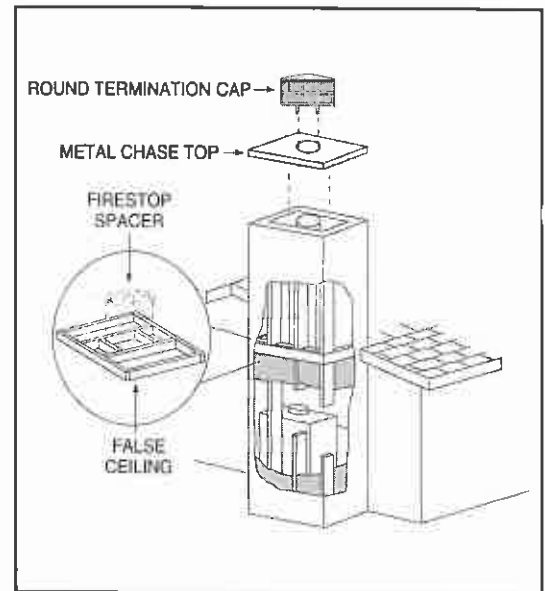

Figure 22 - Chase Assembly
- 4) In cold climates, the walls of the chase should be insulated to the level of the false ceiling as shown in Figure 22. This will help reduce heat loss from the home around the fireplace.